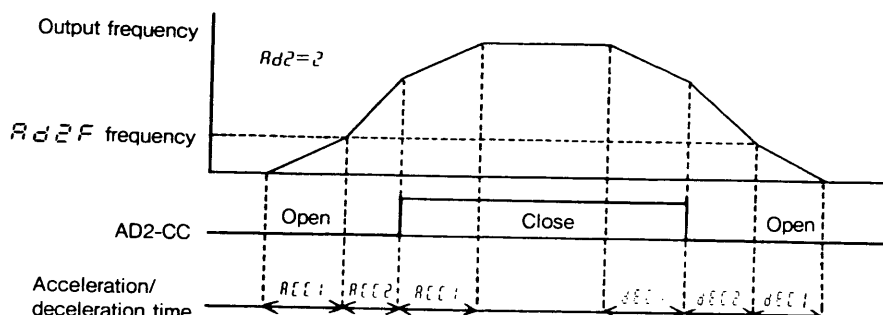

Fig. 8-10 Automatic changeover of acceleration/deceleration time
By using a combination of the terminal input AD2 and parameter  $Rd2$ ,  $Rd2F$ , the acceleration/deceleration time can be easily changed over automatically. (When  $Rd2 = 2$ ) An example of automatic changeover of the acceleration/deceleration time is shown in Fig.8-10.
- 1) Connect an "emergency stop switch" between EX-CC on the control circuit terminal block as shown in Fig. 8-10.